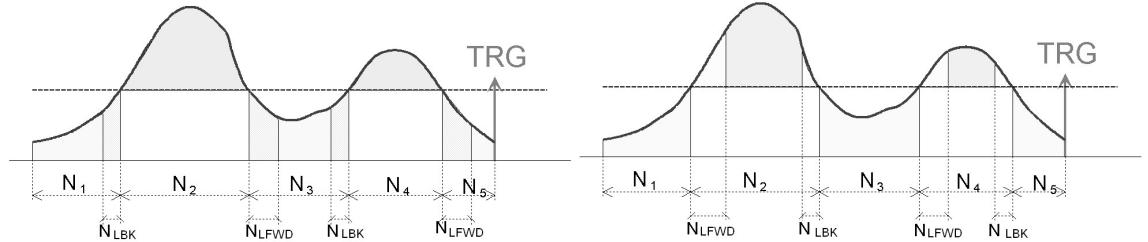

Fig. 8.11: Example of non-overlapping N_{LBK} and N_{LFWD} in case of positive logic (left) and negative logic (right).
1. In the simplest case N_{LBK} and N_{LFWD} do not overlap. Fig. 8.11 reports the case of positive logic on the left, and negative logic on the right. The green areas correspond to the over threshold samples, while the yellow ones correspond to the under threshold samples: